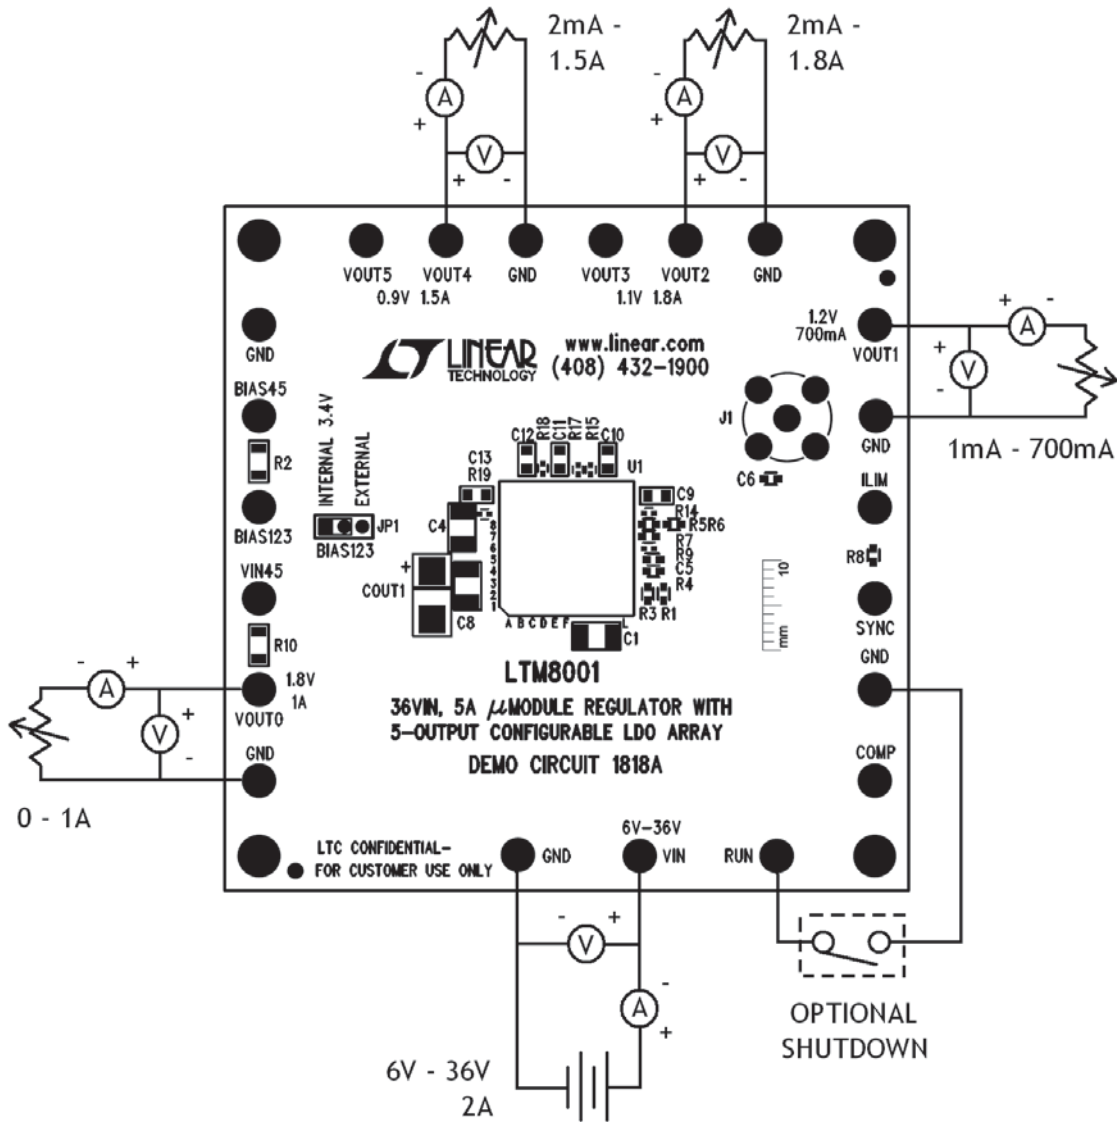

Figure 1. Proper Measurement Equipment Setup
Demo circuit 1818A is an easy way to evaluate the performance of the LTM8001. Refer to Figure 1 for the proper measurement equipment setup and follow the procedure below:
2. Connect the power supply (with power off), loads, and meters as shown in Figure 1.